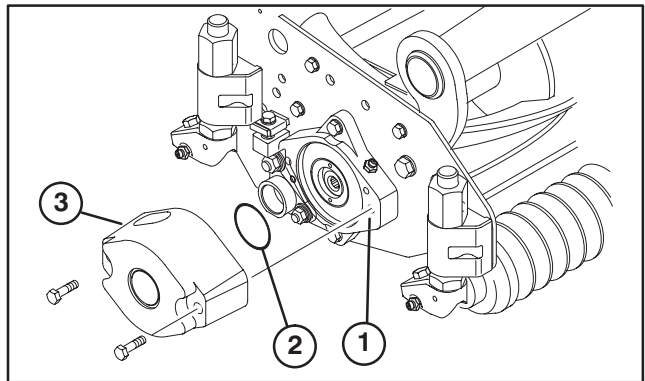

Figure 5
3. Lubricate and install a large O-ring into bearing housing groove on each end of cutting unit (Fig. 5 & 8).
4. Install a counter weight onto appropriate end of each cutting unit with capscrews provided (Fig. 5).